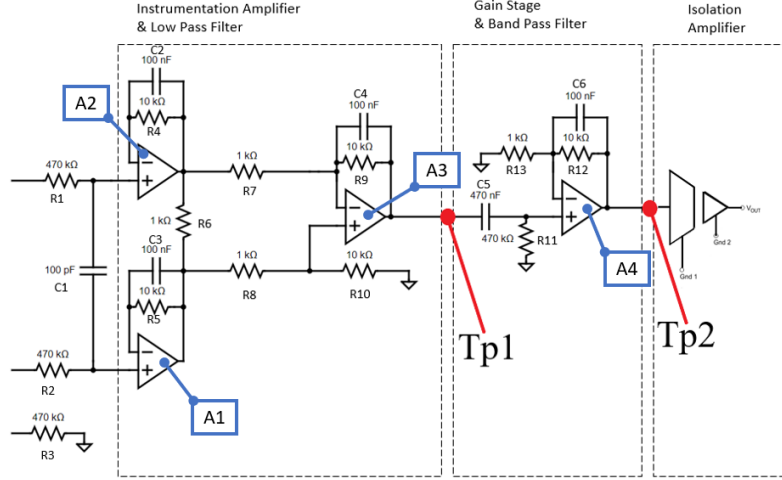
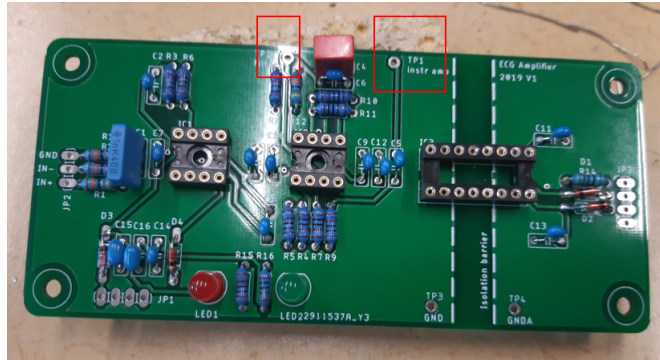

Figure 4: Schematic of ECG amplifier circuit
Figure 9: Circuit and test points
3. What are the values for the gain in each stage of the circuit shown in Figure 4? and the values for the cut off frequencies of the filters? You may use the formulas given in section 1 of Part 1.
This section will give an introduction to the ECG circuit that you will use for measurement. The topology of the ECG amplifier is shown in Figure 4. The circuit is divided in three stages:
The circuit has some test points that you can use to measure the output from each (amplification) stage, as shown in *Figure 9*. You will use these test points to measure the gain and frequency response. In Tp1 you can measure the output from instrumentation amplifier and low pass filter, while in Tp2 you can measure the output from the second gain stage and the band pass filter as shown in *Figure 4*.